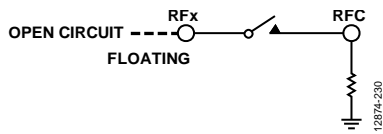
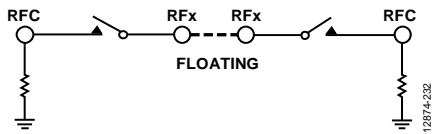
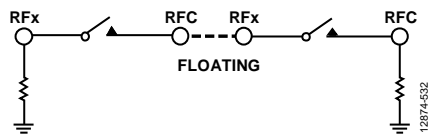

Figure 63. RFx Pins Left Open Circuit
Figure 65. RFC Pins of Two MEMS Switches Directly Connected
Figure 66. RFC Connected to RFx
The ADGM1304 has no internal impedance to ground, and charges can develop on the switch terminals, leading to unreliable switch behavior. To mitigate this behavior, provide a discharge path to all switch nodes. Figure 63 to Figure 66 show examples of cases to avoid where floating nodes can occur when using the switch. Conditions to avoid include the following:
- Leaving the RFx pins open circuit (see Figure 63).
- Connecting the RFx pin of two switches together directly or connecting the RFC pin to the RFx pin (see Figure 65 and Figure 66).